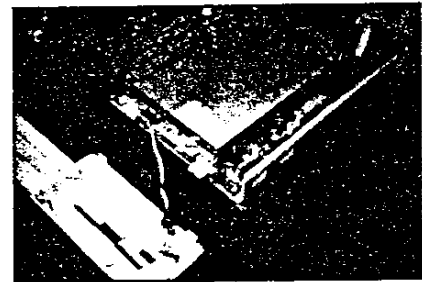

Fig. 2-10. Stand-Off Locations
2.5.1 Remove the 4 brass stand-offs located at the connectors J10 and J11 at board locations T1, T2, T3, T4. See Fig. 2-10.